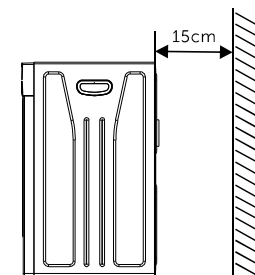

Fig1
- Ensure sufficient spacing is provided for the appliance to be installed. Leave space on back (15cm) to ensure proper ventilation. See figure 1.
- 3:First,loosen the plastic adjustment nut (see figure 1)